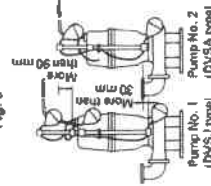

Fig. 4
- (9) Models DVSJ and DVSA will undergo automatic alternate operation when they are paired. Position the floats for these automatic alternate operation pumps as shown in Fig. 4. The pumps may not operate correctly if the floats are in the wrong location.